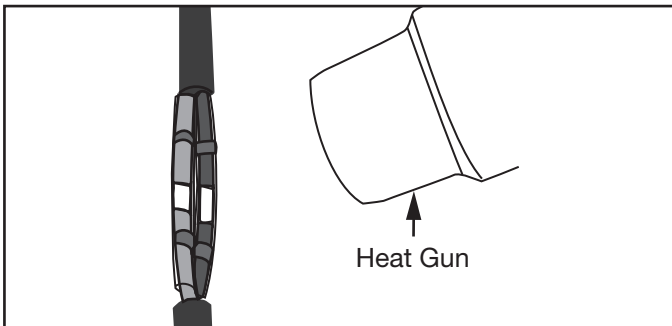

Figure 10. Heating Solder Splices
7. Using a heat gun on Medium to High heat, gently heat the centre of the solder splices until the solder ball melts and runs into the wire. Take care to only heat around the solder ball as excess heat can damage the cable. Check that the red seals next to the solder balls have also melted. See Figure 10.